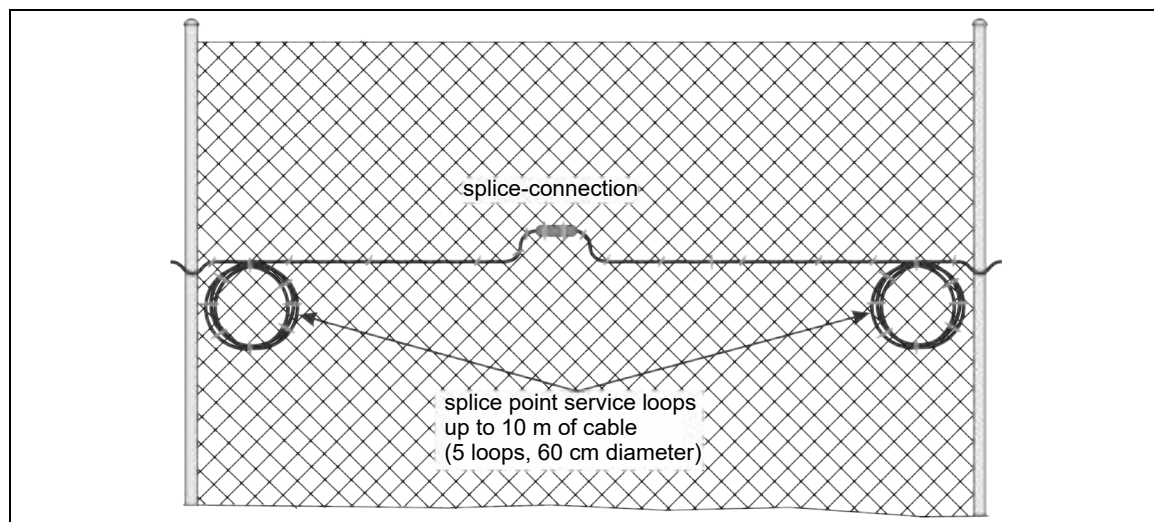

Figure 28: Splice loop example
- If there is excess cable at a cable splice location, form splice service loops by creating up to 5 loops of sensor cable with a 60 cm (2 ft.) diameter. This will provide up to 10 m of sensor cable at each side of the splice that can be used for future repairs or for changes in the sensor cable layout. Figure 28: illustrates the recommended configuration for splice loops.